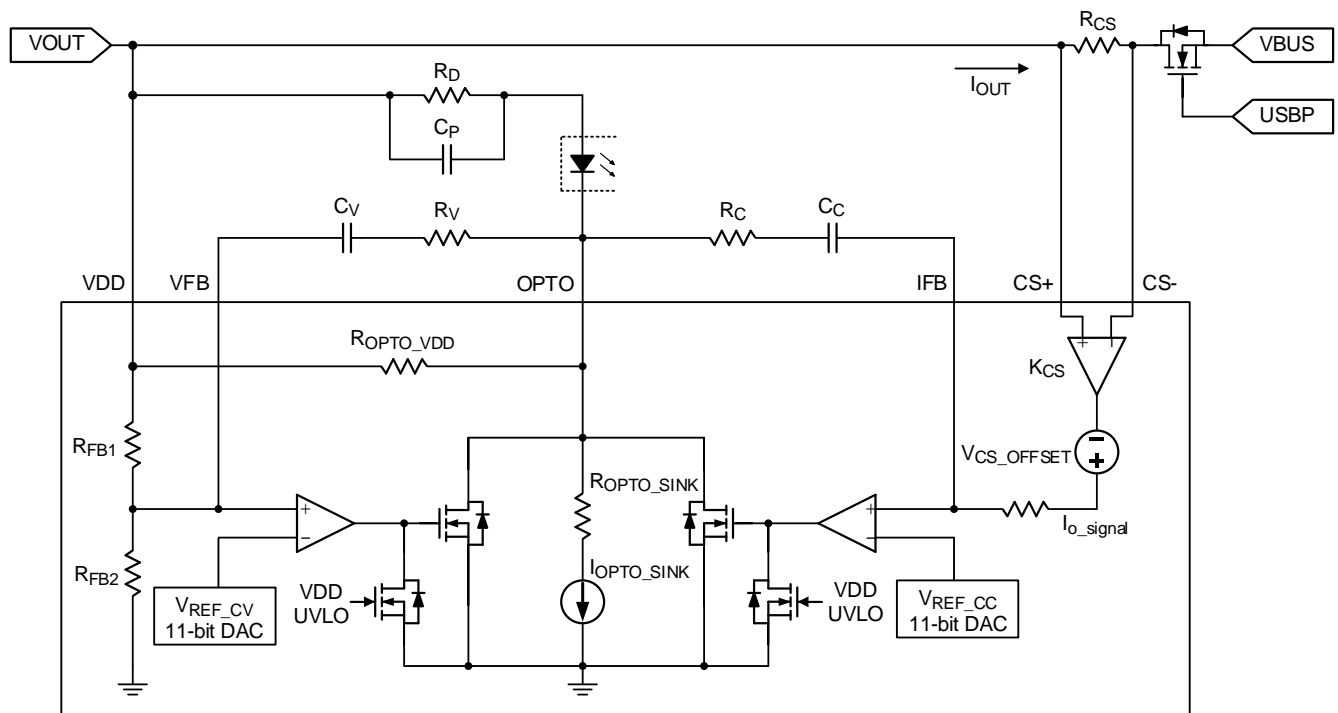

Figure 7. CV and CC Loops
16.1 Constant Voltage (CV) Loop
As shown in Figure 7, the RT7204E integrates two error amplifiers (EA), which are connected with the feedback compensators to regulate the output voltage and current, respectively. The output voltage is determined by the following equation:
As shown in Figure 7, the RT7204E integrates a virtually zero input offset high-side current-sense amplifier with differential mode inputs to minimize noise interference. The sensed signal, I_{o_signal} , is fed into an 11-bit ADC for monitoring and processing by the MCU. The reference voltage of the CC loop is determined by V_{REF_CC} (from the DAC), which is programmed according to the requirements of charger.